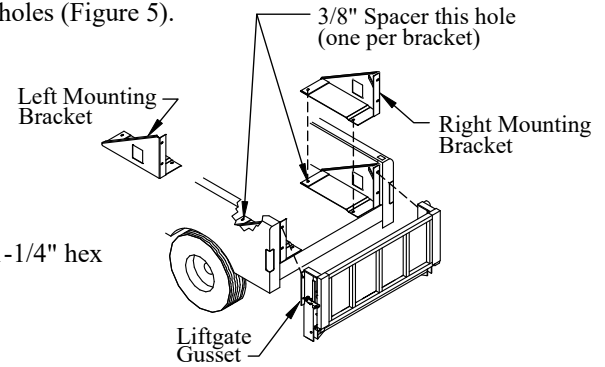

Figure 5: Mounting bracket and liftgate.
1. **Remove** the truck bed bolts at the rear of the truck bed, two per side (Figure 5).
2. **Position** the supplied 3/8" spacers over the mounting holes near the wheel wells, one per side (Figure 5).
3. **Position** the mounting brackets in the truck bed over the truck bed mounting holes (Figure 5).
6. **Attach** liftgate gussets to the mounting brackets using the supplied (4) 1/2"x1-1/4" hex head bolts, lock washers, and flat washers on the bracket-side (Figure 5).